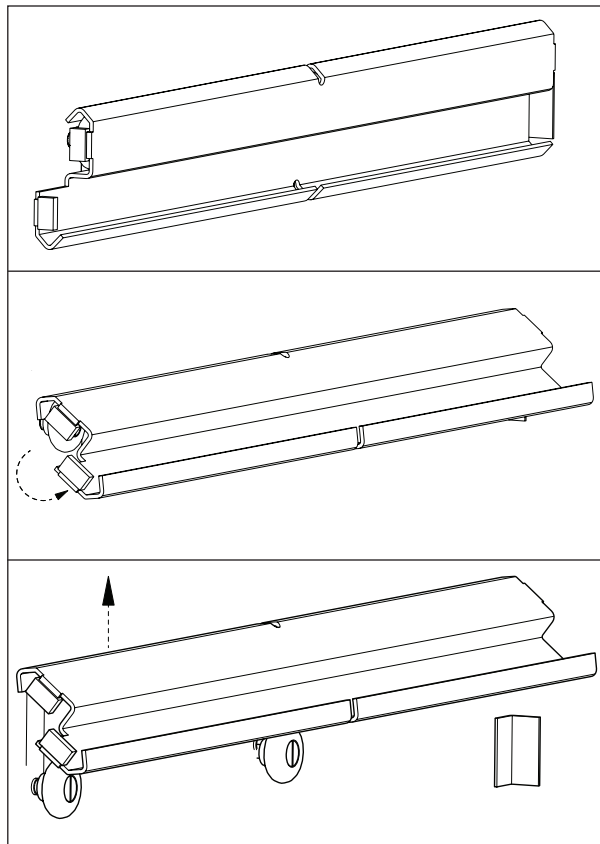

Figure 8-13 Slide Removal
6. Cleaning with Mix Stored in remote Cooler - Wash the inside of cabinet walls with a warm dish detergent solution. Rinse with clear water. The slides can be removed for cleaning by tilting the bottom out and lifting straight up (figure 8-13) . Do this with the slide in retracted position (not extended). Bearing mounted on wall should just be wiped down.